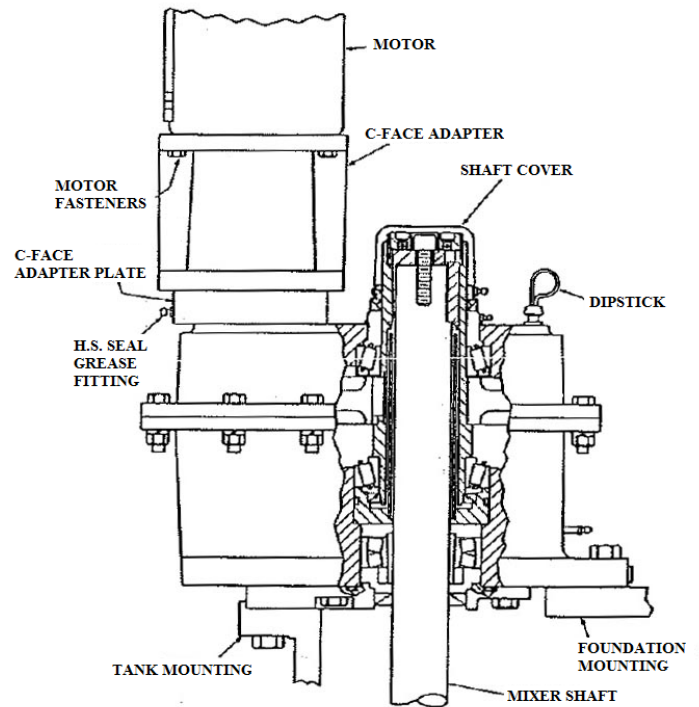

Figure 8.
17. Refer to figure 8 below. Pump NLGI #2 bearing grease into the upper fitting on the low speed seal cage while rotating the high speed shaft until a uniform bead of grease appears between the seal cage and the hollow shaft. Place the low speed shaft cover over the seal cage and secure it with the sheet metal screws provided.